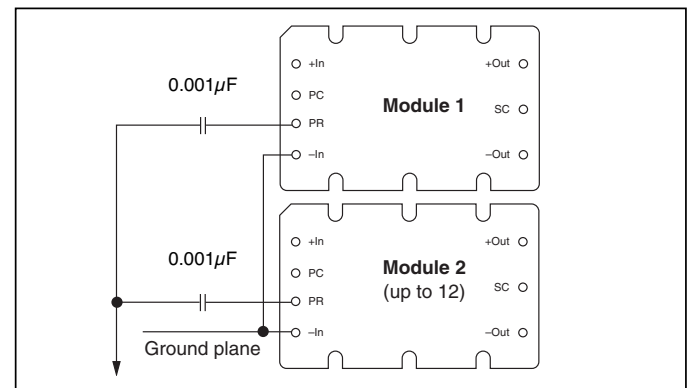

Figure 10 — AC coupled single-wire interface.
*AC coupled single-wire interface.* All PR pins are connected to a single communication bus through 0.001  $\mu\text{F}$  (500 V) capacitors. This interface supports current sharing and is fault tolerant except for the communication bus. Up to three converters may be paralleled by this method. See Figure 10.